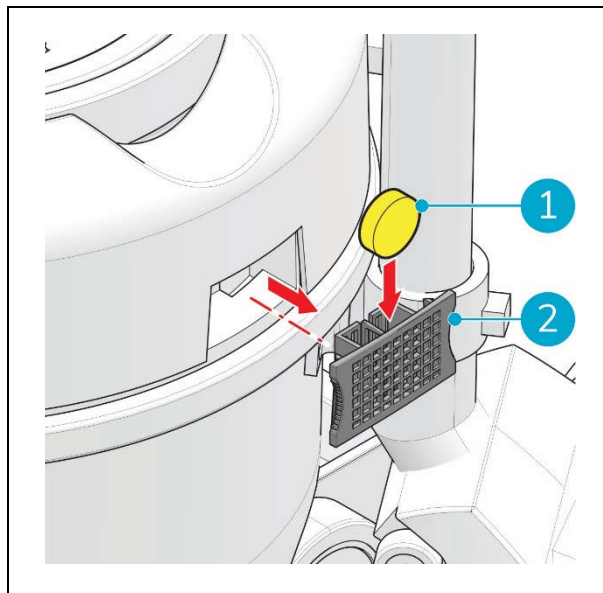

Figure 25
1. Pull out the tablet holder (fig 25, pos 2) from the head of the i-vac 6®.
3. Insert the new fragrance tablet (fig 25, pos 1).